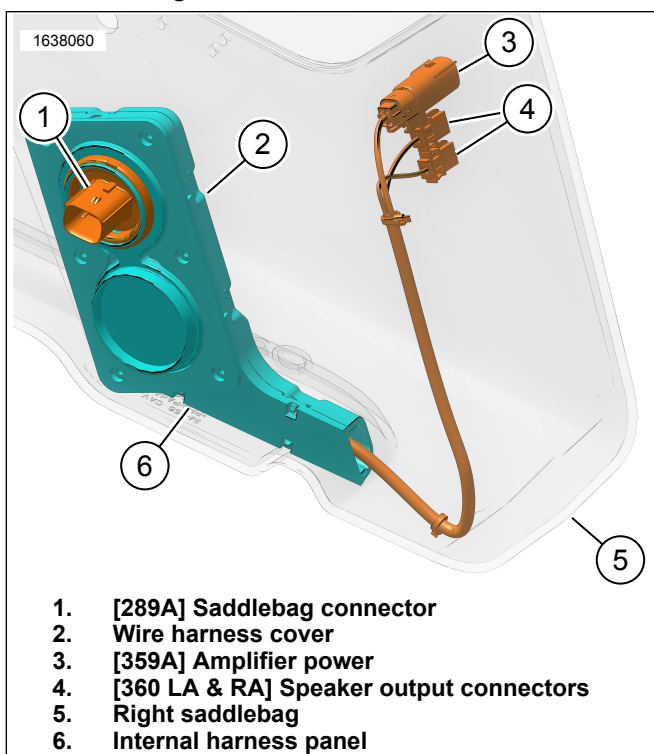
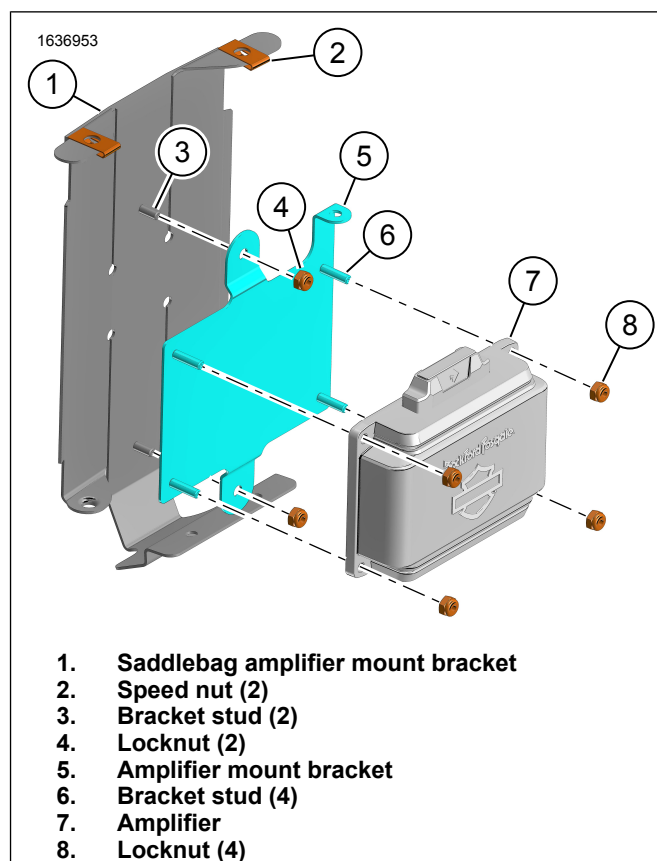
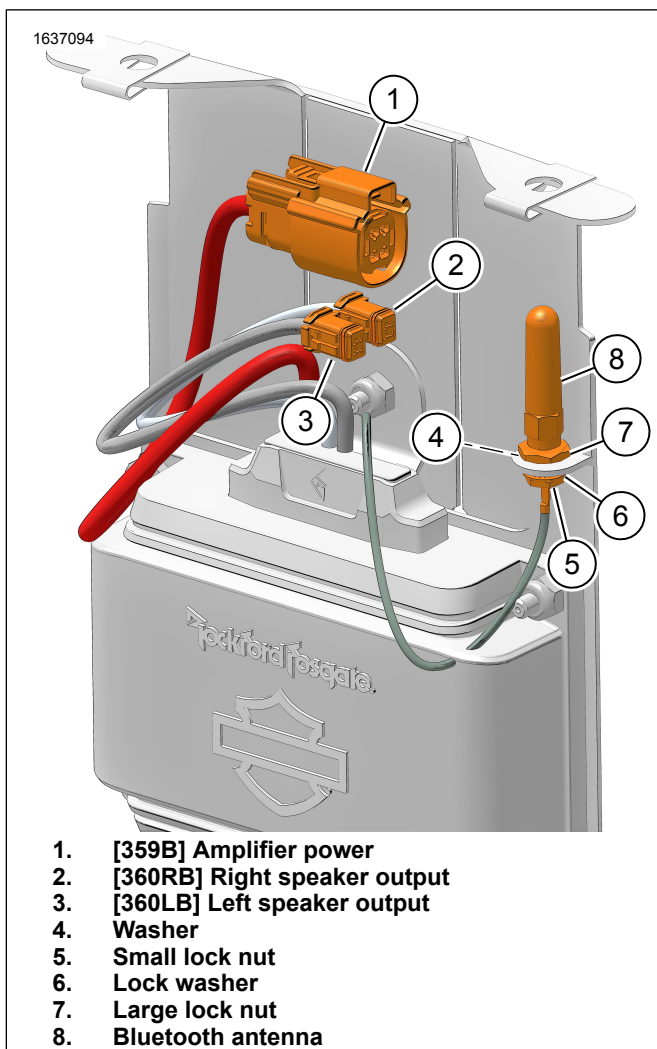
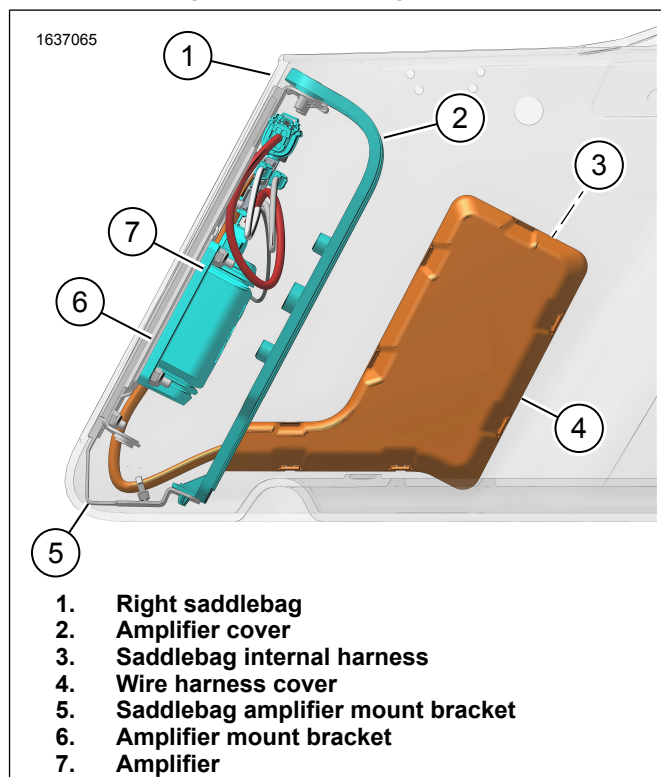

Figure 8. Internal Wire Harness 69202871
Figure 9. Amplifier Mounting Bracket
Figure 10. Amplifier Assembly
Figure 13. Saddlebag Harness with Amplifier
8. See Figure 8. Install internal wire harness as shown.
- a. Install wire harness cover (2).
9. See Figure 10. Assemble antenna.
- a. Install small lock washer (5) and lock washer (4) to antenna base.
- c. Install washer (4) and large lock nut (7). Tighten assembly.
10. See Figure 9. Assemble amplifier mounting bracket.
- a. Install speed nuts (2).
- b. Install amplifier mount bracket (5) to bracket stud (3).
- c. Install lock nut (4). Tighten.
- d. Install amplifier (7).
- e. Install lock nut (4). Tighten.
11. See Figure 13. Install amplifier mount bracket assembly.
14. See Figure 8 and Figure 10. Connect Internal Wire Harness to Amplifier Assembly.
15. See Figure 10. Connect right speaker wires to Amplifier Assembly.
See Figure 8 and Figure 10. Connect Internal Wire Harness to Amplifier Assembly.